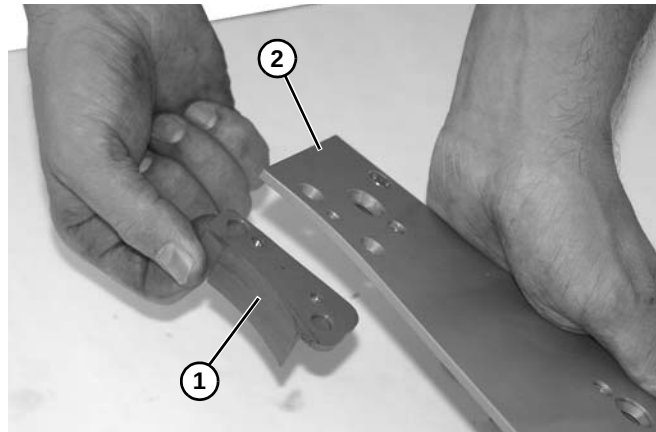

Figure 79
4. Remove lower retaining guide (**Figure 79, item 1**) from drive plate (**Figure 79, item 2**).